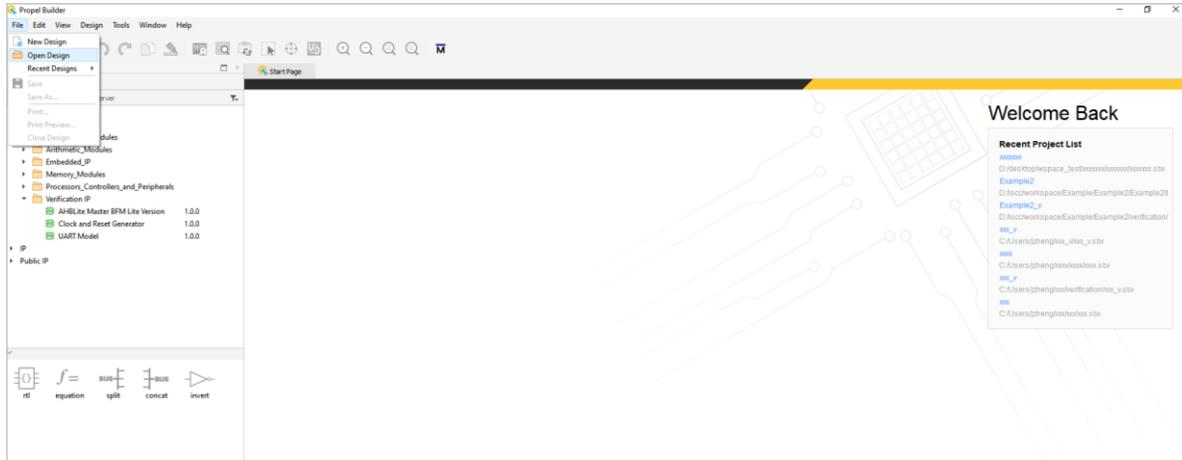

Figure 2.33. Open Design
- To open an existing SoC project, choose **File** >  **Open Design** from Propel Builder GUI menu or click **Open Design** icon  from Propel Builder Toolbar (Figure 2.33).